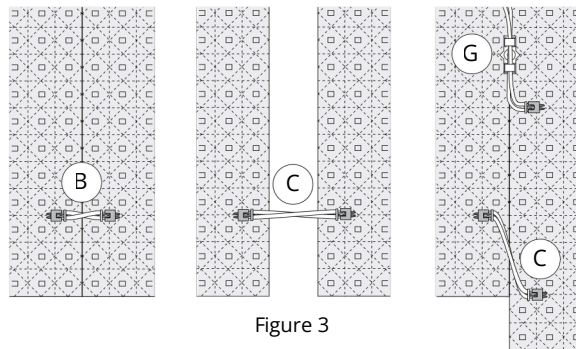

Figure 3
Use the long sheet-to-sheet connection wires (C) to bridge gaps and/or connect offset sheets as shown in Figure 3.
Cable management clips (G) (included in the power input kit sold separately): Route the connection wires so that the light from the LEDs is not blocked and hold the wires in this position using cable management clips with silicone adhesive backing (G) as shown in Figure 3. Once applied, let this adhesive backing cure for 10-30 minutes before routing wires through the clip. When possible, use a mechanical fastener to secure the clip. If this is not possible in your installation you may need to utilize a cyanoacrylate adhesive to create a reliable bond between the clip and light sheet. A supplementary document that outlines this process is available upon request.